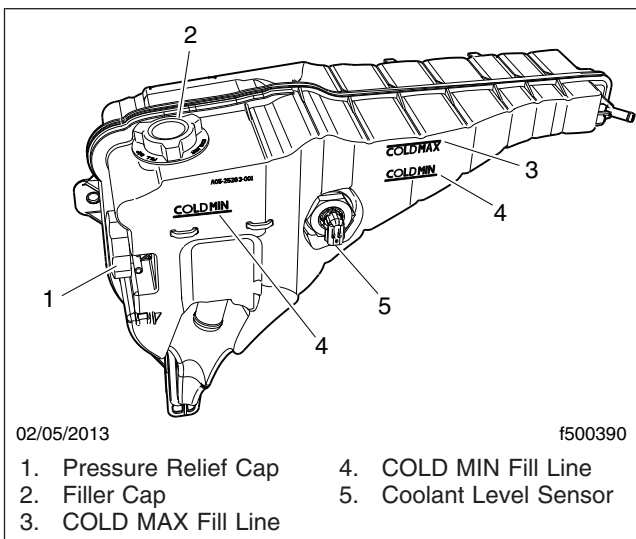
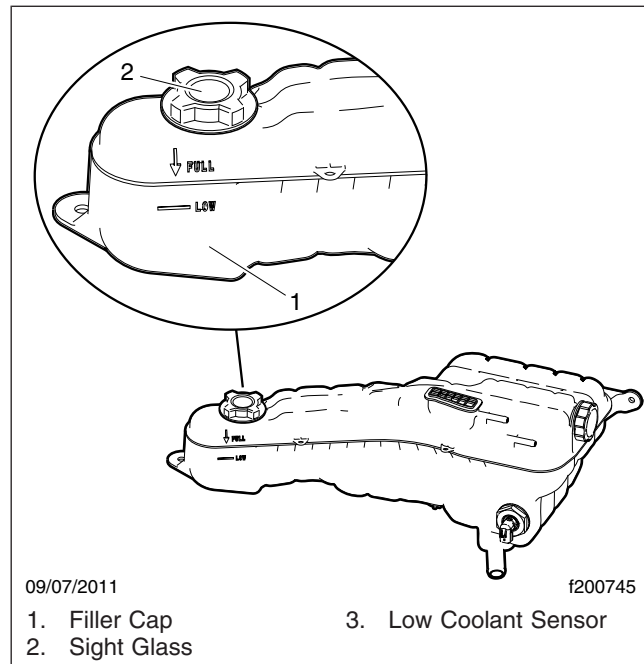

Fig. 23.6, Coolant Surge Tank (5700 models)
Fig. 23.7, Coolant Surge Tank (4700 models)
5. Check the engine coolant level in the radiator surge tank. See Fig. 23.6 or Fig. 23.7.